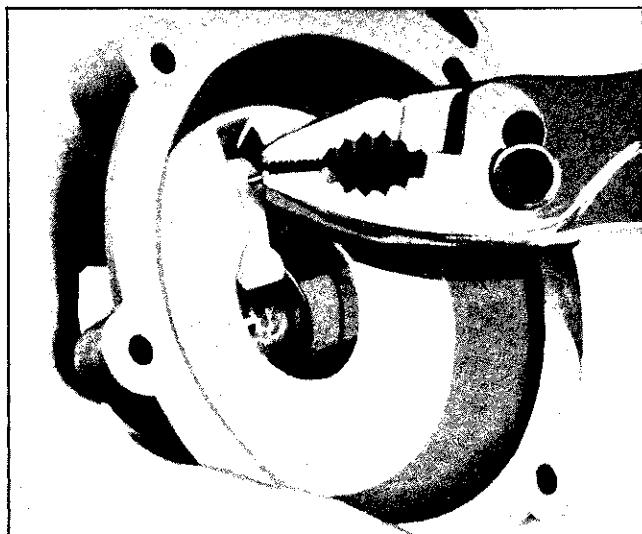

Fig. 4-19 Removing Rocker Arm Pin
6. If necessary, remove rocker and swivel arms. Grip pin with pliers and remove pin (Fig. 4-19).